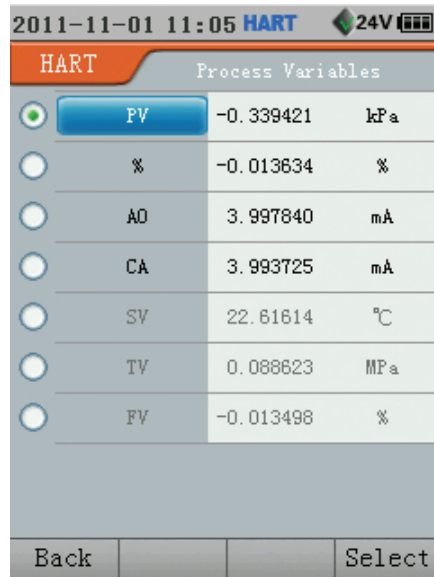

Figure 11.5 HART Process Variables
When the HART Communication interface is active, you can press **Process** to show HART Process Variables interface (Figure 11.5). In this interface you can view more HART Process Variables including primary variable (PV), range (%) PV current value (AO), loop current (CA), secondary variable, third variable, and fourth variable, PV, %, AO, and CA are selectable (Figure 11.4).